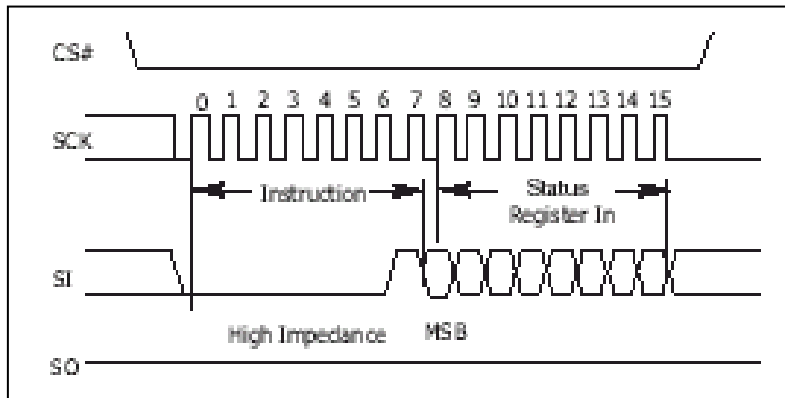

Figure 8 Write Status Register (WRSR) Instruction Sequence
The Write Status Register (WRSR) instruction allows new values to be written to the Status Register. Before it can be accepted, a Write Enable (WREN) instruction must previously have been executed. After the Write Enable (WREN) instruction has been decoded and executed, the device sets the Write Enable Latch (WEL). The Write Status Register (WRSR) instruction is entered by driving Chip Enable (CE_L) Low, followed by the instruction code (Figure 8) and the data byte on Serial Data Input (SI).